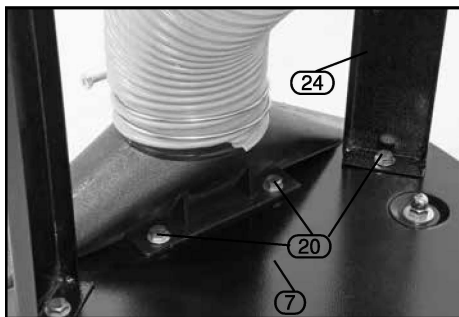

FIG. 5
ASSEMBLY TO BASE- FIG. 5
Secure the floor attachment to the base (7) with the remaining (M8 x 10mm) bolts (20) (as shown in fig. 5).